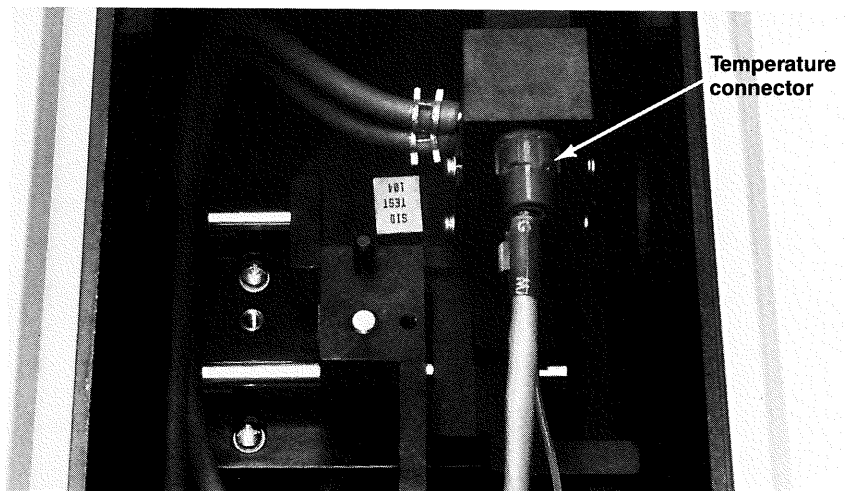

Figure 18.
20. Attach the temperature cable to the flowcell. See Figure 18.